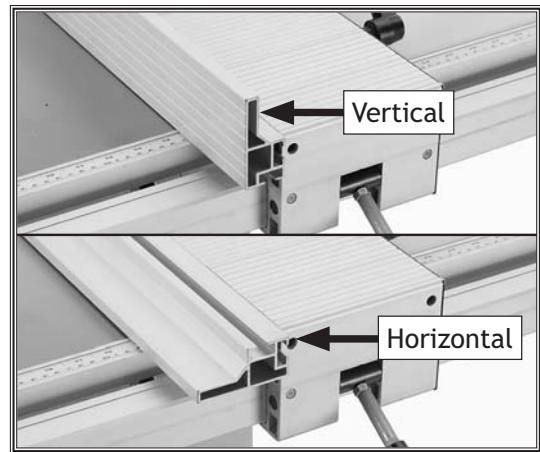

Figure 69. Rip fence positions.
3. Place the rip fence in the vertical position for larger workpieces, or in the horizontal position for angled cuts and for small workpieces (see **Figure 69**).